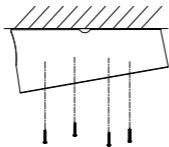

Figure 2. 11 Fix the Inclined Base
2. Install the inclined base to the ceiling with supplied screws, as shown in Figure 2. 11.